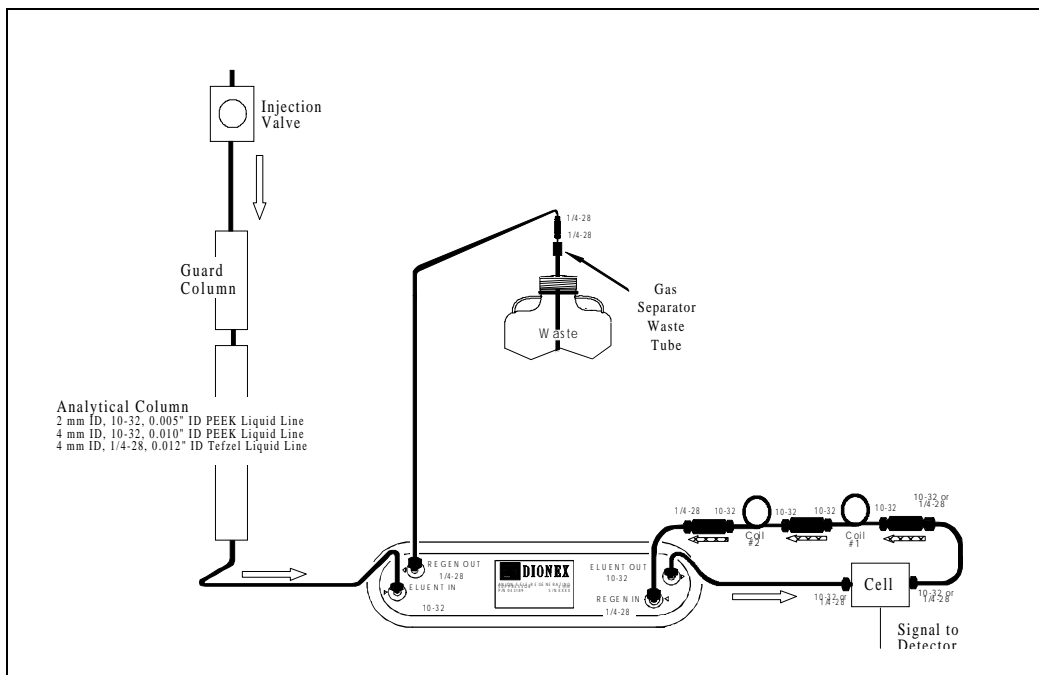

Figure B-3. AutoSuppression Recycle Mode
- AutoSuppression™ Recycle mode (SRS required), illustrated in Figure B-3.